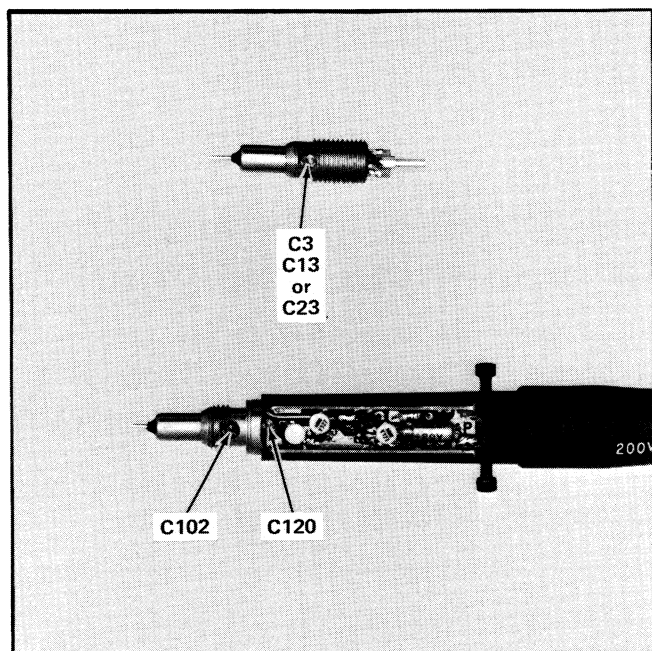

Fig. 5-12.
2) Unscrew the probe barrel and install the Probe Compensation Fixture (Part No. 067-0624-00) as shown in Fig. 5-12. After the calibration fixture is installed and the locking screws tightened, turn the probe power supply ON.
4) ADJUST—Using a small non-metallic probe such as a tooth pick, adjust C120 (Fig. 5-12) for minimum aberrations at the front corner of the square wave. The capacitor has small indentations along its edge so that it can be rotated with the small non-metallic probe.
3) Adjust—C102 (Fig. 5-12) for best square corner and flat top of the square wave generator pulse output.
2) Remove the circuit board and tip from the metal housing and insert the attenuator circuit board with tip into the Attenuator Compensation Calibration Fixture (Part No. 067-0623-00) so the compensating capacitor is visible through the adjustment hole (see Fig. 5-12).